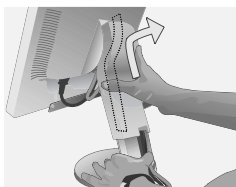

Figure S.1
1. Place hands on each side of the monitor and lift up to the highest position. Remove the cable cover (Figure S.1).